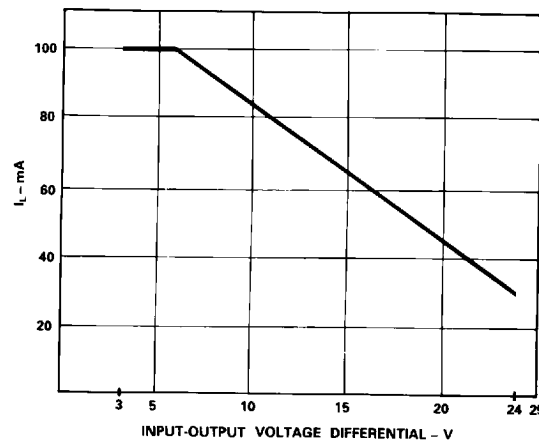
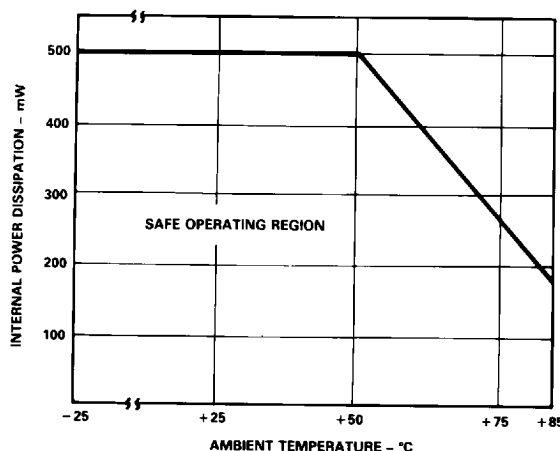

Figure 12. Excitation Source Load Current vs. Input-Output Voltage Differential,  $\le 25^\circ\text{C}$
Figure 13. Excitation Source Internal Power Dissipation vs. Temperature
**Bridge Excitation:** The adjustable bridge excitation is specified over a wide regulator input voltage range (+9.5V to +28V). Maximum load current  $I_L$  as a function of regulator input-output differential voltage is shown in Figure 12. The maximum output current also depends on ambient temperature, and above +50°C a derating factor of 2mA/°C must be applied. The safe operating region for internal power dissipation vs. temperature is graphed in Figure 13.